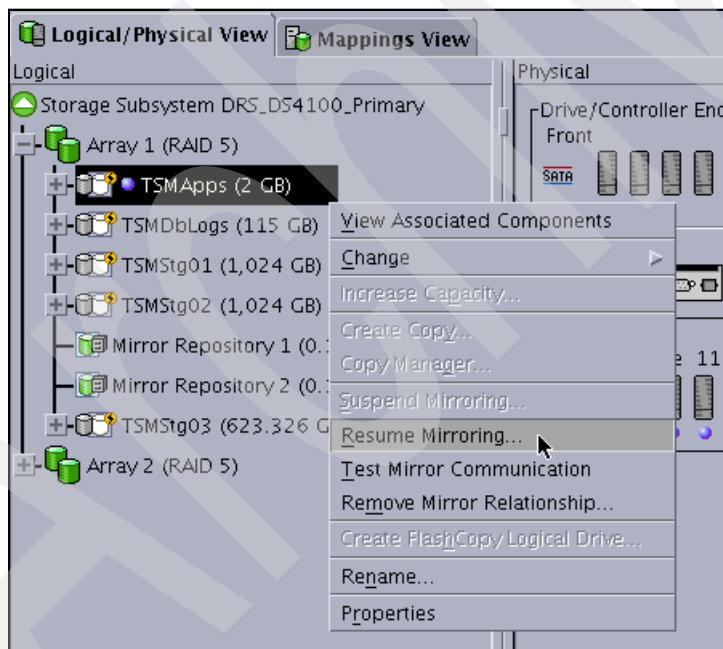

Figure 13-45 Resume mirroring on a logical drive
1. Select the logical drive in the Logical View of the primary storage subsystem, and then select the **Logical Drive** → **Remote Mirroring** → **Resume** drop-down menu option, or select **Resume Mirroring** from the context menu (Figure 13-45).